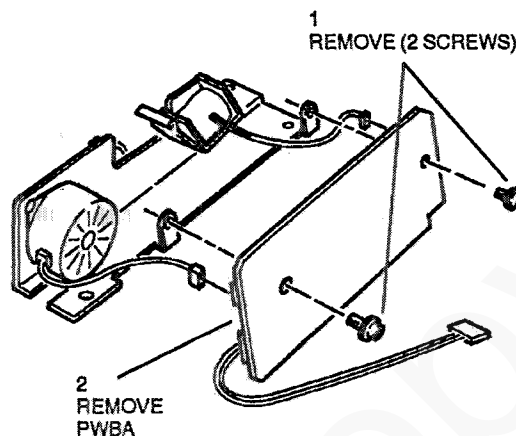

Figure 2. Tray 2 PWBA removal
4. (Figure 2) Remove the tray 2 PWBA.